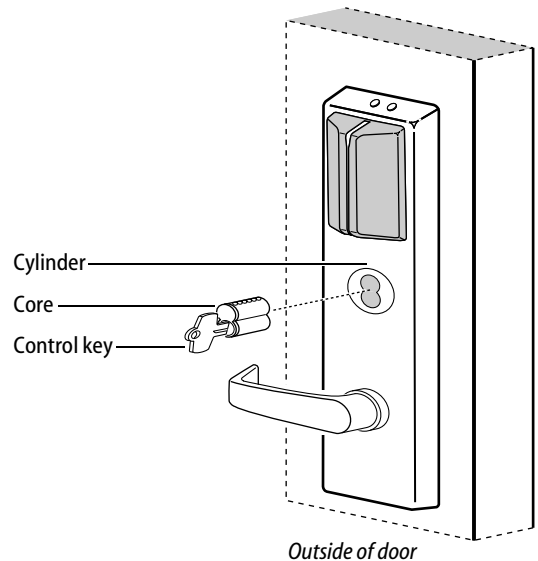

Figure 10 Installing the core
- 1 Insert the control key into the core and rotate the key 15 degrees to the right.
- 2 With the control key in the core, insert the core into the cylinder as shown in Figure 10.
- 3 Rotate the control key 15 degrees to the left and withdraw the key.